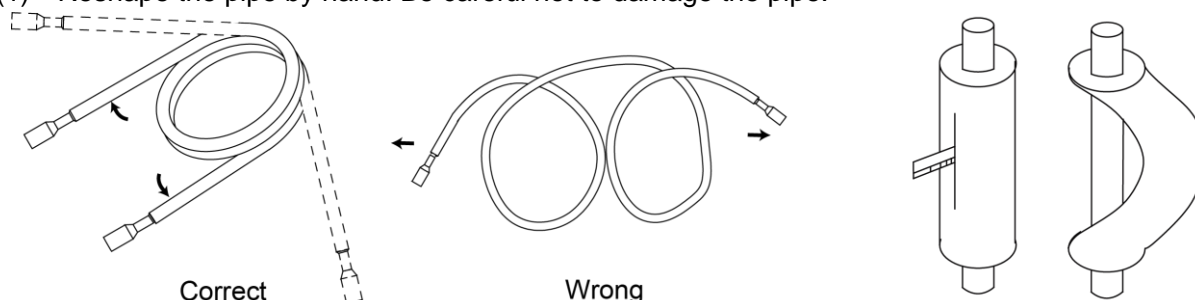

Fig.11
- (2) Do not bend the pipe at over 90°.
- (3) If pipe is repeatedly bent or stretched, it will get hard and difficult to be bent and stretched again. Therefore, do not bend or stretch the bend for over 3 times.
- (4) In case that direct bending will open cracks to the pipe, first use sharp cutter to cut the insulating layer, as shown in Fig.11. Bend the pipe after it is exposed. When bending is done, wrap the pipe with insulating layer and then secure it with adhesive tape.